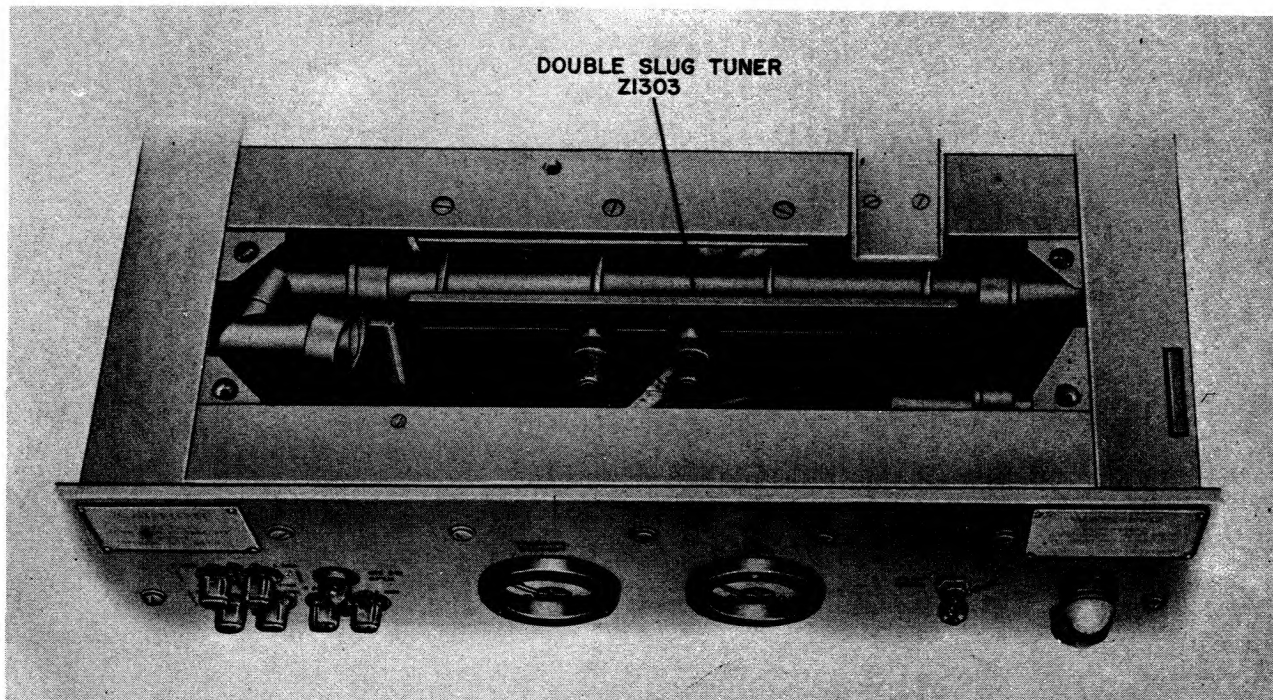

Figure 2-20. Amplifier Modulator AM-1701/URN, Top Front view Showing Double-Slug Tuner
Step 17. Connect oscilloscope through crystal detector E1152 to KLYSTRON OUTPUT INCIDENT jack J1157 and adjust output cavity of klystron and double slug tuner (figure 2-20) for maximum output without pulse flattening or loss of symmetry.